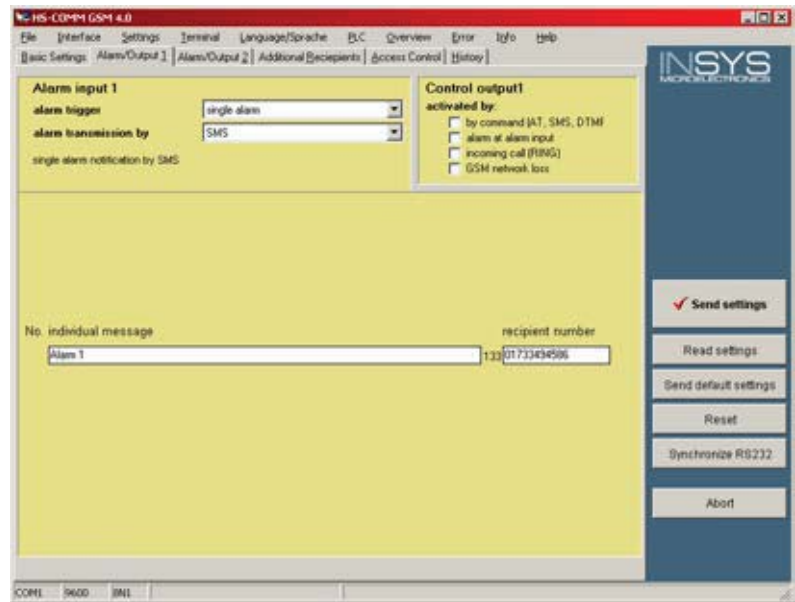

Fig. 180: GSM modem - alarm/output 1
2. ➤ Set up the modem as shown in (Fig. 180) on the “Alarm/Output 1” tab.